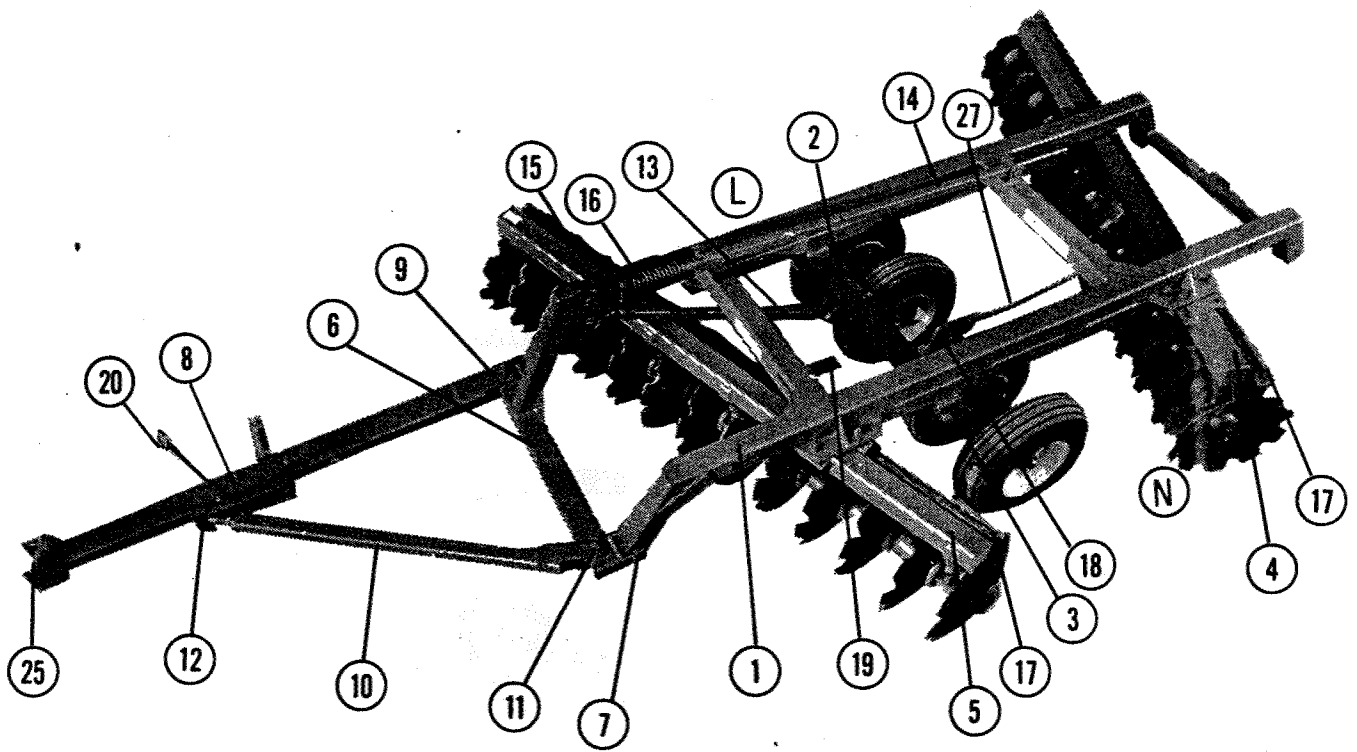

Figure 1
1. **To Install Wheel Carriage and Wheels:** (Refer to Figure 1) Place wheel carriage(2) under the main frame(1) and attach frame with pins(3). Install 5/16 x 2 lock bolts in pins and tighten lock nuts securely. Install wheels on to hubs with wheel bolts provided and tighten securely.
2. **To Attach Gang Bars to Frame:** (Refer to Figure 1) Bolt rear gang bar(4) to main frame(1) in center set of offsetting holes and in next-to-maximum angle with $\frac{7}{8}$ x 3 1/2 bolts. Install leveling washers on top of angling plates on long side of disc(L). Install leveling washers between gang bar and angling plates on narrow side of disc(N). Bolt front gang bar(5) to main frame in next to maximum angle with $\frac{7}{8}$ x 3 1/2 bolts. Install leveling washers same as rear gang.
3. **To Attach Hitch Bridle to Frame:** (Refer to Figure 1) Place bridle(6) at front of frame(1) and attach with pins(7). Install lock bolts and tighten nuts securely.
4. **To Attach Hitch Pole to Bridle:** (Refer to Figure 1) Attach main hitch pole(8) to bridle(6) at lead corner(9) with 1 x 6 bolt. Attach hitch side arm(10) to opposite side of bridle(11) with 1 x 6 bolt. Join hitch pole and side arm with 1" pin at adjustable eye bolt(12). Tighten all bolts securely.
5. **To Attach Fore-Aft Leveling Assembly:** (Refer to Figure 1) Install short tube(13) to wheel carriage with 1" pin. Install long tube(14) with 1" pin. Slide short fore-aft eye bolt(15) into bottom tube(13) (pinned to wheel carriage) and pin to bottom hole of bridle mast(6). Slide long fore-aft eye bolt c/w spring and washers into top tube(14) (attached to main frame) and pin to top hole of bridle mast(6).
6. **To Attach Scrapers:** (Refer to Figure 1) Attach scraper bars(17) to gang bars (4 & 5) with carriage bolts provided. Attach scrapers to scraper bar with clamps and bolts provided use care to adjust scrapers close to discs but not rubbing.
7. **To Double Wide Right and Left Hand Offsets:** (Refer to Double Wide drawing). Set together following regular instructions except item No. 4 - to attach hitch pole to bridle - the hitch pole is attached to the opposite side from the lead corner and the side arm is attached to the lead corner with 1 x 6 bolt. Set left hand disc(1) stationary and pull right hand disc(1) along side leaving front gang of right hand disc behind front gang of left hand disc. Attach rear spreader bar(5) with pins. Attach front spreader bar(6) with pins. Join right hand main hitch pole to left hand main hitch pole(3) with 1 1/4" pin(7). Adjust swivel flapper with 1 x 6 bolt for proper direction(8).
1. **Hydraulic Cylinder and Hoses:** (Refer to Figure 1) A standard 8" stroke double acting hydraulic cylinder is required to lift disc. Two 18 ft. hydraulic hoses are needed to allow full offsetting and turning without hose damage.
2. **Angle Changing:** (Refer to Figure 1) To change angle. Raise disc on wheels until discs are clear of ground. Remove bolt(21) and loosen the three remaining bolts. Slide gang bar forward or backward as desired. Replace bolt and tighten all bolts securely. For ordinary conditions set both front and rear gangs in next to maximum angle. Increase angles as required to suit conditions.
4. **Offsetting The Hitch:** (Refer to Figure 1) This unit is designed to trail straight behind the tractor. Minimum side draft will be obtained when the hitch is in line with outside beam of main frame. If more adjustment is required screw hitch side arm eye bolt(12) to desired position, then retighten jamb nut to reduce pressure on eye bolt thread.
5. **Hitch Height:** (Refer to Figure 1) The hitch pole should always be as near level as possible when discing. Flapper hitch(25) can be raised or lowered to proper tongue level of tractor. (Not adjustable on Series 250)
- A. **Front to Rear:** (Refer to Figure 1) With disc raised and hitch to tractor, adjust bottom fore-aft eye bolt(15) until main frame is level. Adjust fore-aft spring lock(16) until spring is snug. The top spring should be under some compression when discing, but should never be compressed solidly. NOTE: In general use as little pressure as possible when discing.
7. **Transporting:** (Refer to Figure 1) Disc may be transported without using hydraulic cylinder. Place the rod(27) through the hole in anchor on frame(1) and place clevis over transport block. Raise the disc until the cylinder has reached the end of its stroke. Insert pin in clevis and adjust transport rod nut until there is about 1/8" between nut and transport anchor. Release pressure on hydraulic cylinder and remove. **CAUTION:** Extreme care should be taken not to collapse the cylinder too much with the transport rod in transport position.